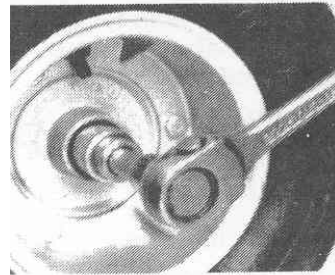

Fig. 13
1. Chock wheels and remove axle nut; See Fig.13